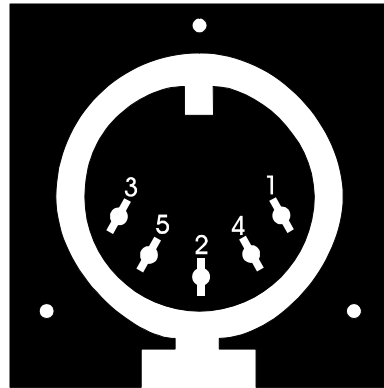

Fig.3-1 Radio Port 1 and Radio Port 2 Connector
Interfacing the MFJ-1278B to your radios involves connecting the following signals at Radio Port 1 and Radio Port 2. The pin outs of Radio Port 1 and Radio Port 2 are shown in Fig. 3-1.
The MFJ-1278B gives the user two (2) radio ports. This allows for both FM and HF operation from either radio port. Since the radio ports are independent of each other, the user is not restricted to FM or HF operations. The radio ports on the MFJ-1278B allow an FM radio and an HF radio to be connected at all times. In fact you can have any combination of HF radios or VHF radios connected to the radio ports at any time. The pin designations for both radio ports are exactly the same. See Fig. 3-1 for the radio port pin designations. The radio ports on the MFJ-1278B are switched by using the **RADio** command. We will discuss radio port switching in the next chapter.